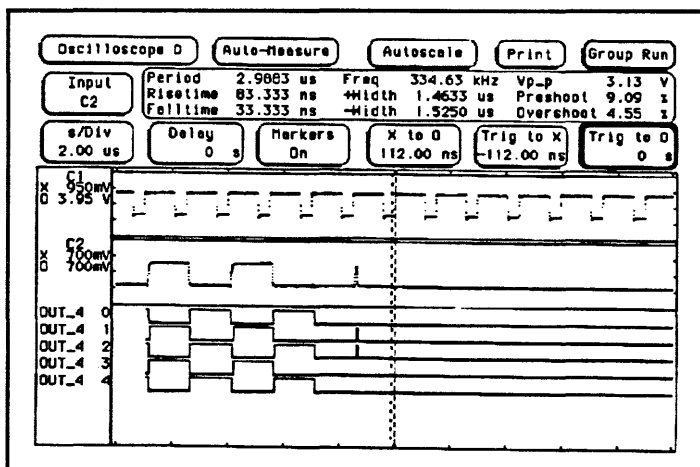

Figure 12-19. Displaying Multiple Module Data on One Screen
8. Touch **Done** and the **Waveform Selection** pop-up will disappear, returning you to the waveform display. As shown in figure 12-19, the five HP 16510B timing analyzer channels (**OUT_4**) are now displayed with the HP 16530A/16531A oscilloscope channels **C1** and **C2** on the **Oscilloscope D Auto-Measure** menu.